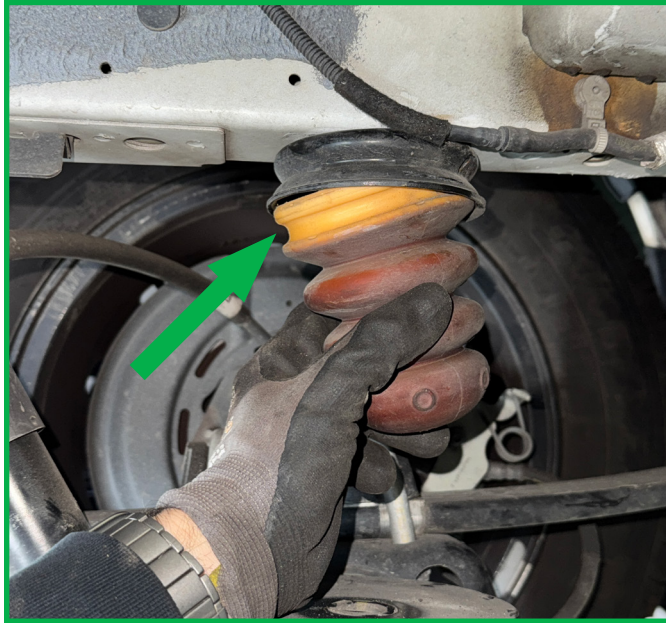

FIGURE 1
1. Remove serial bump stop. (Figure 1)